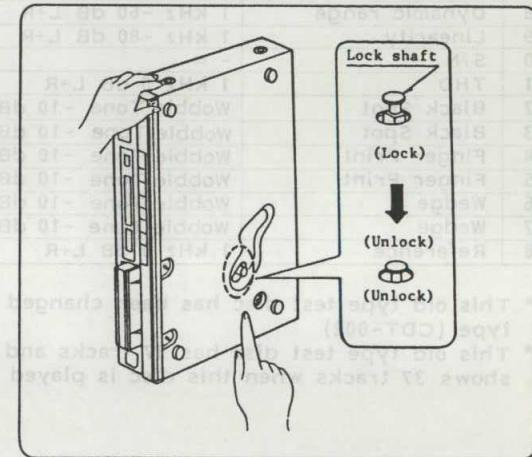

Fig.1 Lock Shaft
- ① Remove the cabinet, and front panel.
- ② Remove the power switch rod.
- ③ Release the optical pick-up lock by pressing in the lock shaft located at the bottom ( □ (Lock) → ▲ (Free)). See Fig. 1 below.